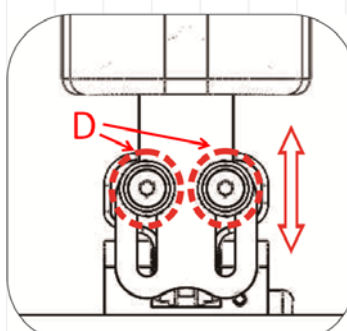

Figure 5-141
5.3.12.5 Use the #4 Allen Key Wrench to loosen the screws C. The pommel pad can be moved up or down. Re-tighten all screws. (Figure 5-141)